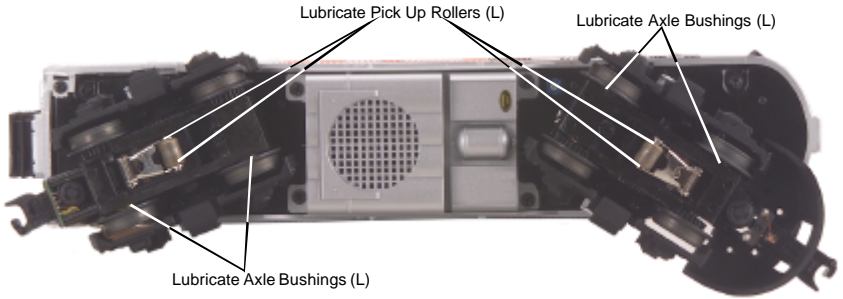
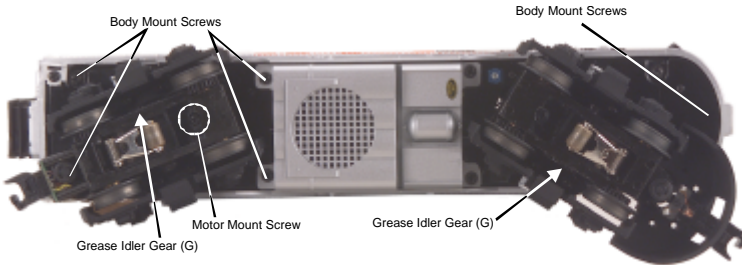

Figure 7. Lubrication Points on the Locomotive
Figure 8. Location of Body Mount Screws and Greasing Points on the Locomotive
1. Although the engine was lubricated at the factory, it is important that you lubricate the chassis before operation. Lightly grease the outside idler and drive gears marked “G” in Fig. 8 on pg. 13 with lithium-based grease to prevent them from squeaking and to prevent premature wear. Use light household oil and follow the lubrication points marked “L” in Fig. 7 on pg. 12. Do not over-oil. Use only a drop or two on each pivot point.
You should regularly lubricate the engine to prevent it from squeaking. Use light household oil and follow the lubrication points marked “L” in Fig. 7. Do not over-oil. Use only a drop or two on each pivot point.
1. To access the gear box, remove the body from the chassis by unscrewing the chassis screws as seen in Fig. 8 on page 13 and lifting the body from the chassis.
2. Once the body is removed, remove the trucks by unscrewing the black Phillips motor mount screw located on the underside of the drive trucks (see Fig. 8 on pg. 13).
Lubricate the outside truck block idler and drive gears with grease. Use the diagram shown in Fig. 8 below as a guide and add grease to the points marked with a “G.”